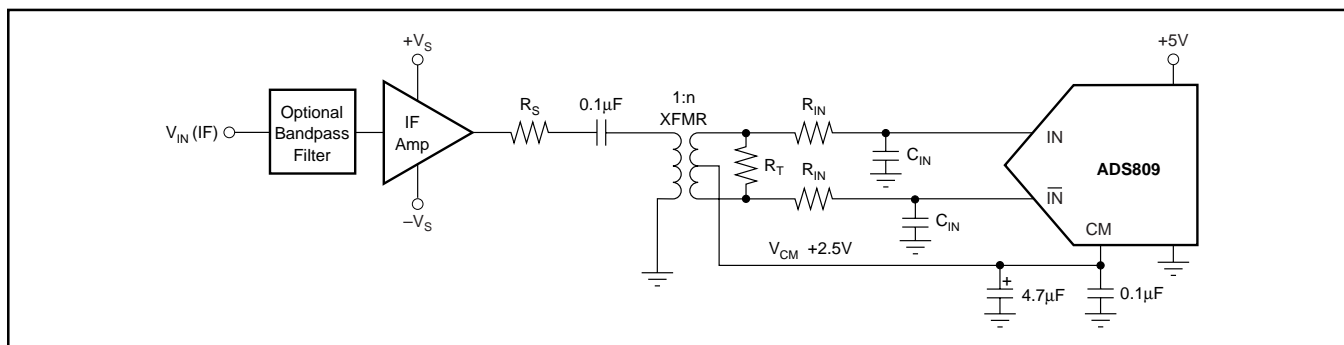

FIGURE 4. Driving the ADS809 with a Low Distortion RF Amplifier and a Transformer Suited for IF Sampling Applications.
One possible interface solution that uses a transformer is given in Figure 4. The input signal is assumed to be an Intermediate Frequency (IF) and bandpass filtered prior to the IF amplifier. Dedicated IF amplifiers, for example the RF2312 or MAR-6, are fixed-gain broadband amplifiers and feature a very high bandwidth, a low-noise figure, and a high intercept point at the expense of high quiescent currents of 50-120mA. The IF amplifier may be AC-coupled or directly connected to the primary side of the transformer.
Furthermore, the appropriate model must support the targeted distortion level and should not exhibit any core saturation at full-scale voltage levels. Since the transformer does not appreciably load the ladder, its center tap can be directly tied to the CM pin of the converter, as shown in Figure 4. The value of termination resistor (R_T) should be chosen to satisfy the termination requirements of the source impedance (R_S). It can be calculated using the equation $R_T = n^2 \cdot R_S$ to ensure proper impedance matching.